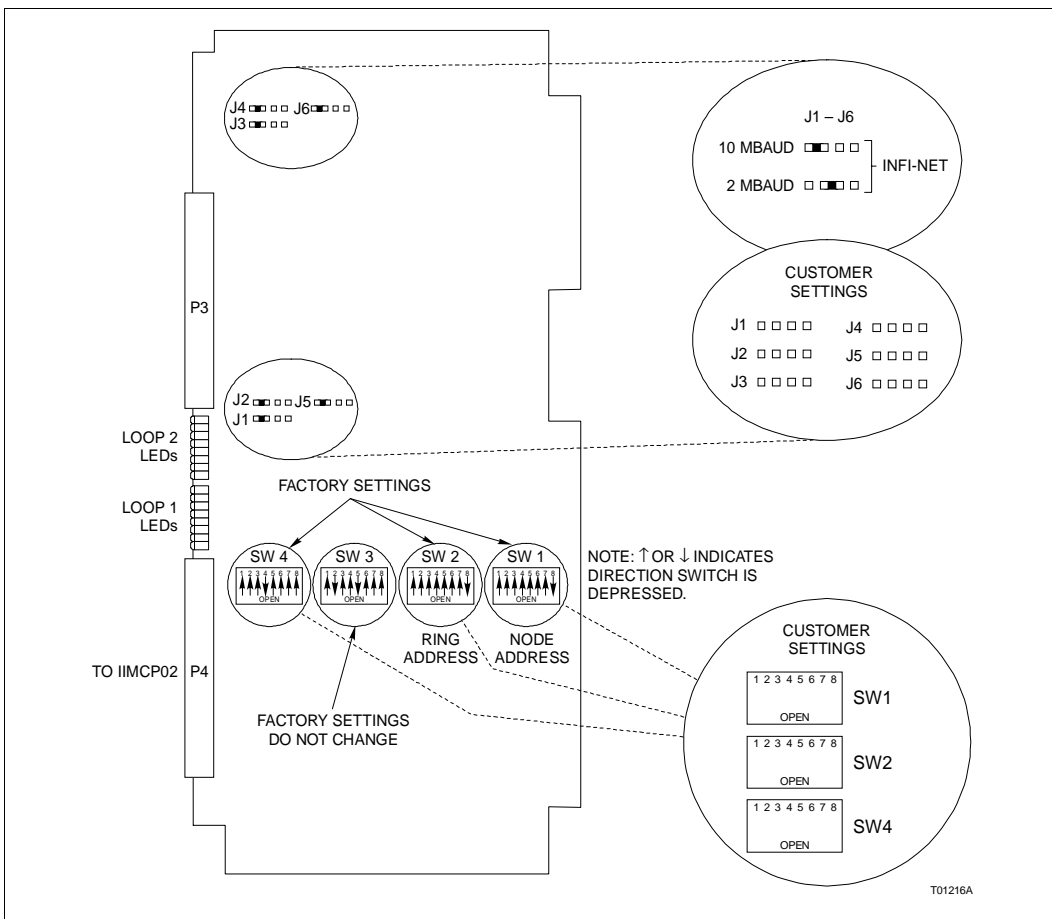

Figure PR31-3. IIMLM01 Module
- 6. Refer to Figure PR31-3 and Table PR31-1 and set the jumpers and switches as desired, filling in the customer settings in Figure PR31-3 and Table PR31-1.
NOTE: The settings shown in Figure PR31-3 and the bold entries in Table PR31-1 indicate factory default settings.